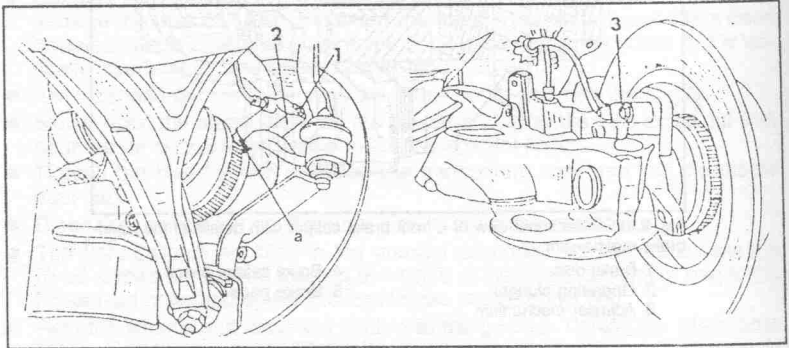
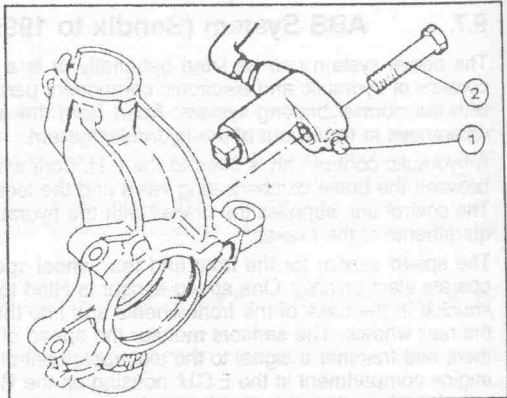

Fig. 9.11. — The location of the wheel speed sensors on front axle (left) and rear axle (right).
Fig. 9.12. — Adjusting a front wheel speed sensor (refer to text).
The installation is a reversal of the removal procedure. The front sensor must be adjusted during installation. A gap of 0.5 mm must be obtained at point "a" in Fig. 9.11 between the tip of the sensor and the toothed wheel on the drive shaft, when the front sensor is re-fitted. To adjust the gap, refer to Fig. 9.12:
When fitting the rear wheel sensor, coat the threads of the screw (3) in Fig. 9.11 with thread locking compound. Fit the screw and tighten to 1.0 kgm (7.2 ft.lb.).